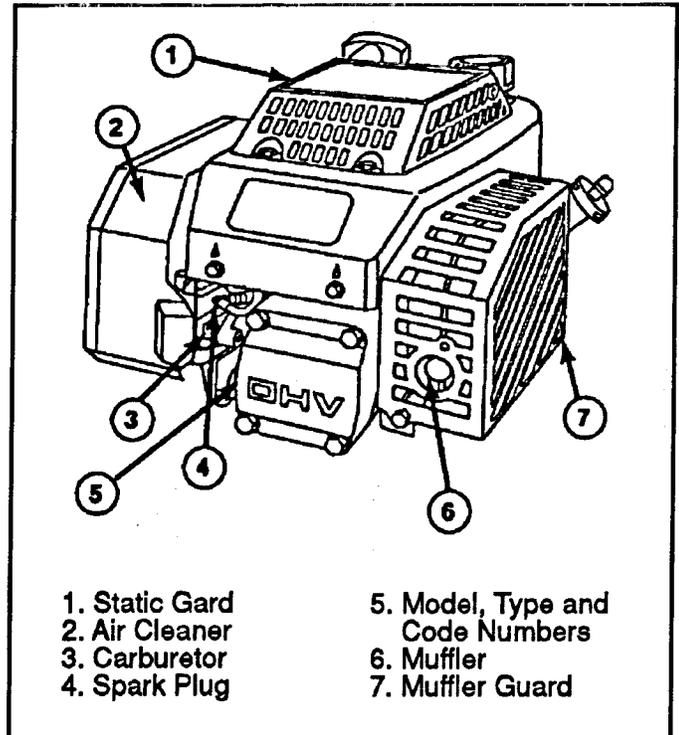

Figure 2
1. Stop the engine, allow it to cool and disconnect the spark plug wire. See Figure 2. Remove the key from the switch on electric start models.